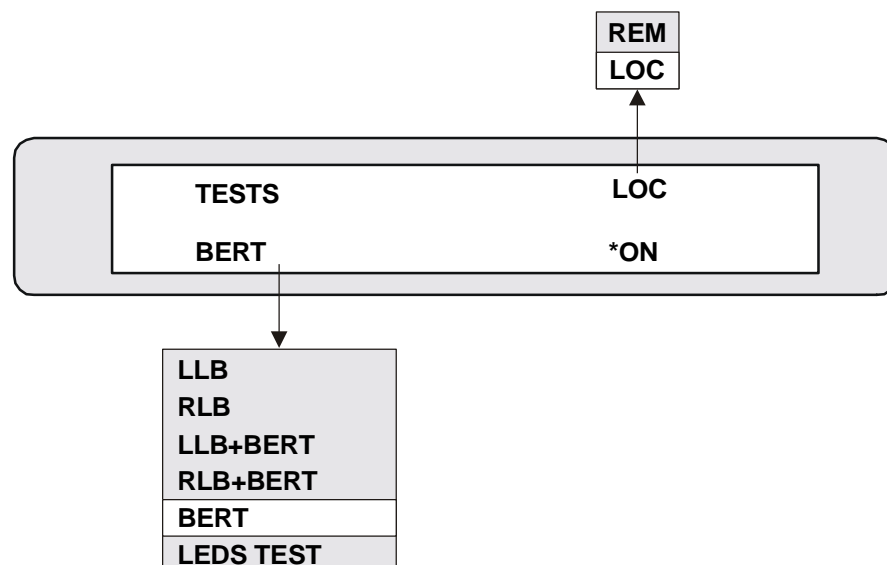

Figure 5-7. Initiating BER Testing
- Initiate BER testing via TESTS > BERT > ON (see Figure 5-7).